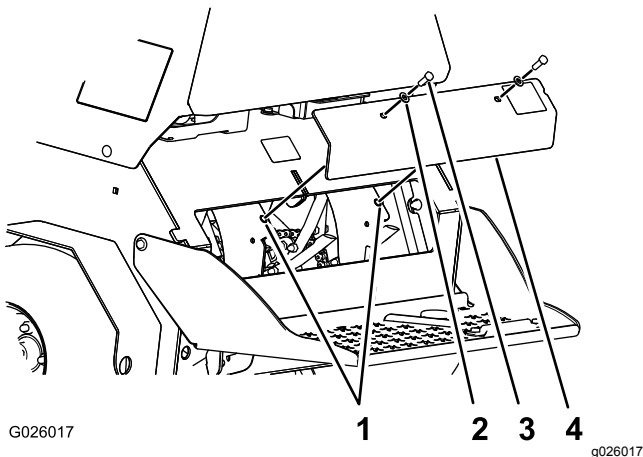

Figure 62
3. Remove the 2 bolts (3/8 x 1 inch) and 2 washers (3/8 inch) that secure the rear-cover panel to the chassis, and remove the panel (Figure 62).
6. Align the holes in the rear-cover panel to the holes in the chassis (Figure 62).
7. Secure the cover panel to the chassis with the 2 bolts and 2 washers (Figure 62) that you removed in step 3, and torque the bolts to 37 to 45 N·m (27 to 33 in-lb)